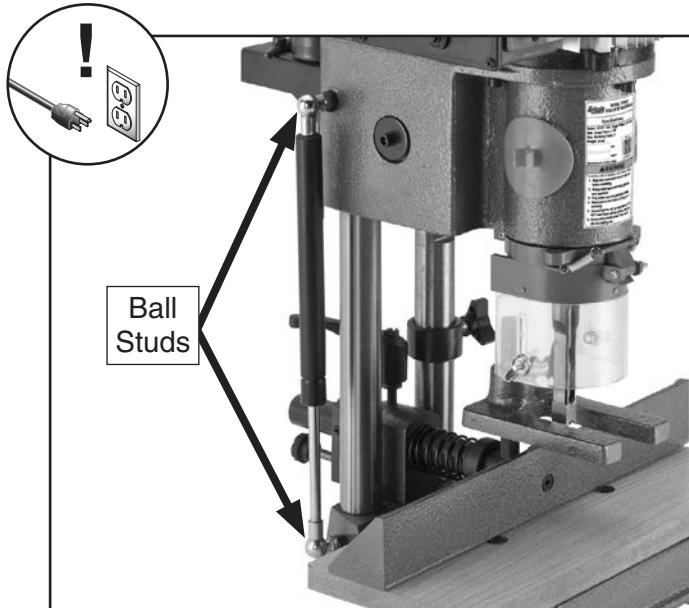

Figure 31. Location of ball studs on gas spring.
The gas spring shown in **Figure 31** keeps the headstock under pressure so it does not drop when the hand lever is released. If you ever notice that the gas spring is not working correctly, promptly replace it.
3. Unscrew ball stud (see **Figure 31**).